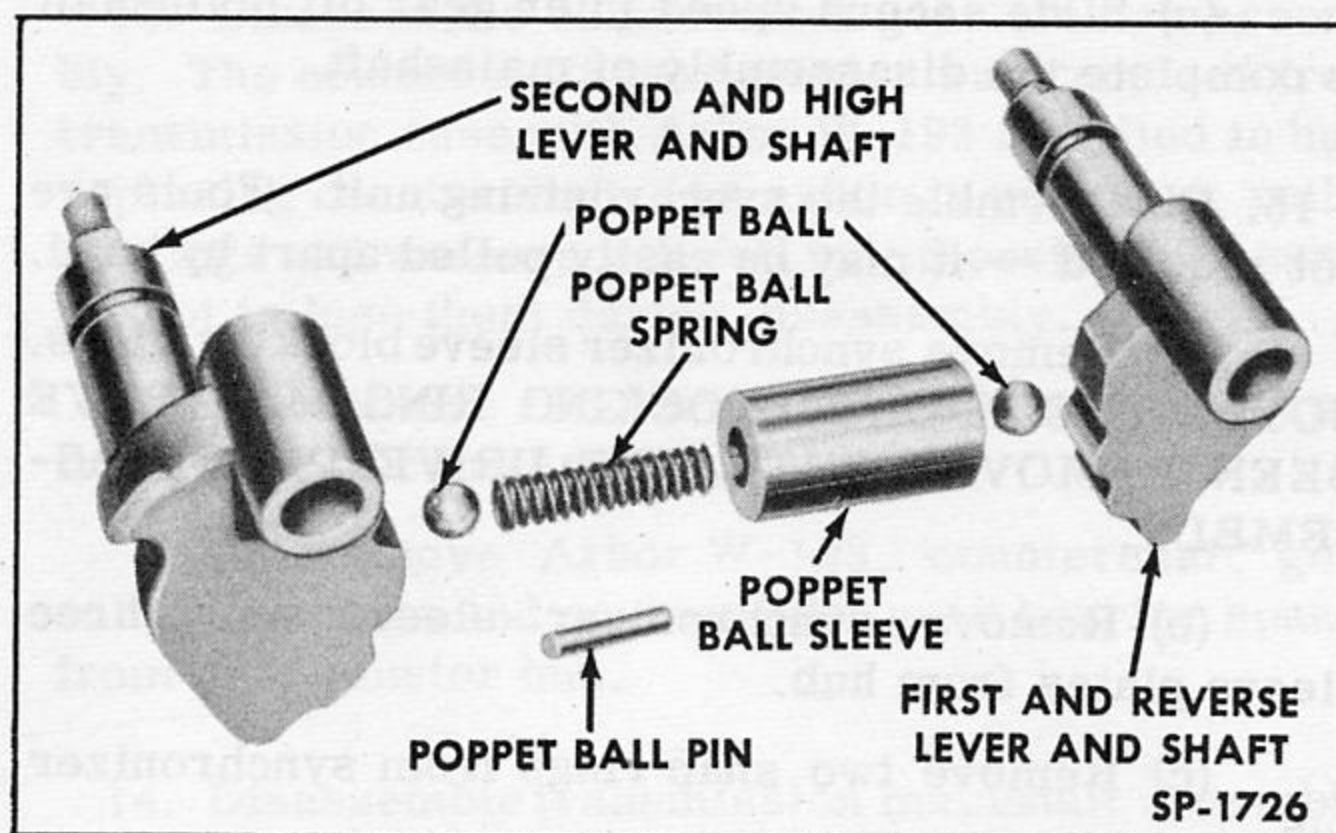

Fig. 134—Interlock Components—Exploded View
2. Install shifting lever and interlock mechanism (Fig. 134) to the transmission case as follows: